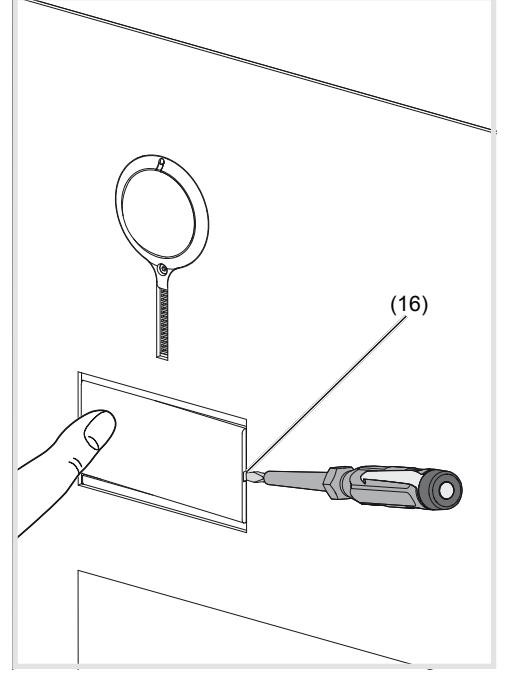

Figure 3: Removing name plate cover
- On the opposite side, the lever opening (16) is accessible for a screwdriver.
- Position the screwdriver in the lever opening (16) and release the interlock (Figure 3).